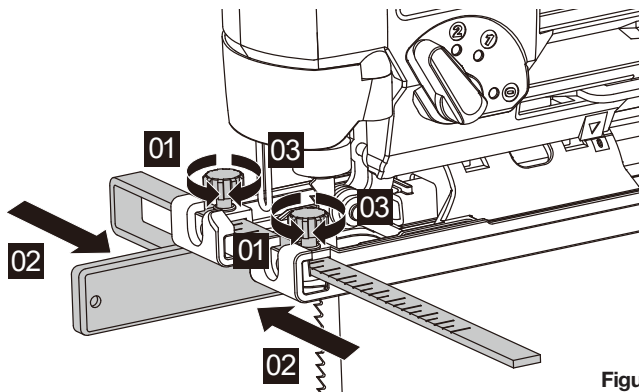

Figure 3
3. PARALLEL GUIDE FITTING (SEE FIG. 3)